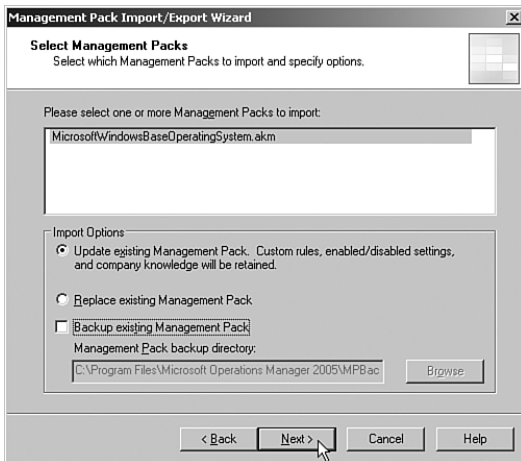

FIGURE 8.8 Specify import options in the management pack Import/Export Wizard.
2. Select the management pack to be imported, select whether you want to update the existing management pack or replace it, and select whether you want to back up the management pack. It is not necessary to back up the previous version if the management pack was not already imported into MOM. Figure 8.8 shows available import option choices.